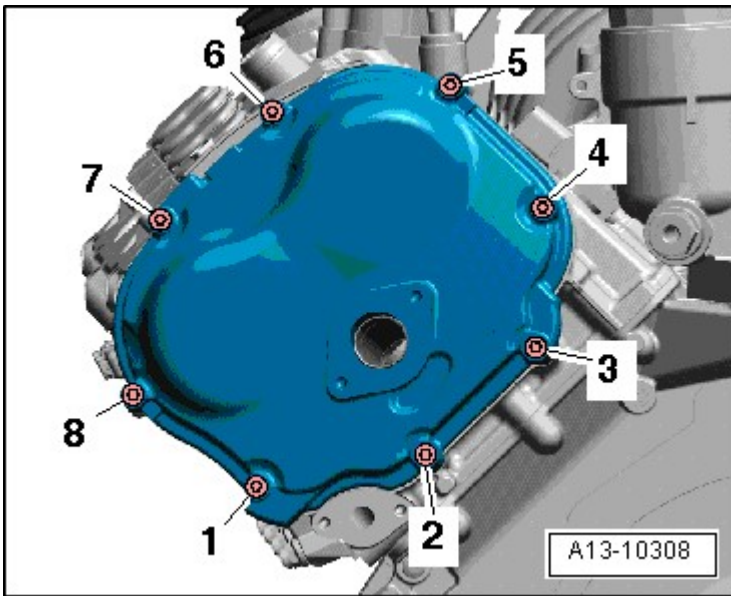

Fig. 2: Identifying Left Timing Chain Cover And Tighten/Removing Bolts Sequence
- Tightening specification and sequence, refer to **Fig. 2**